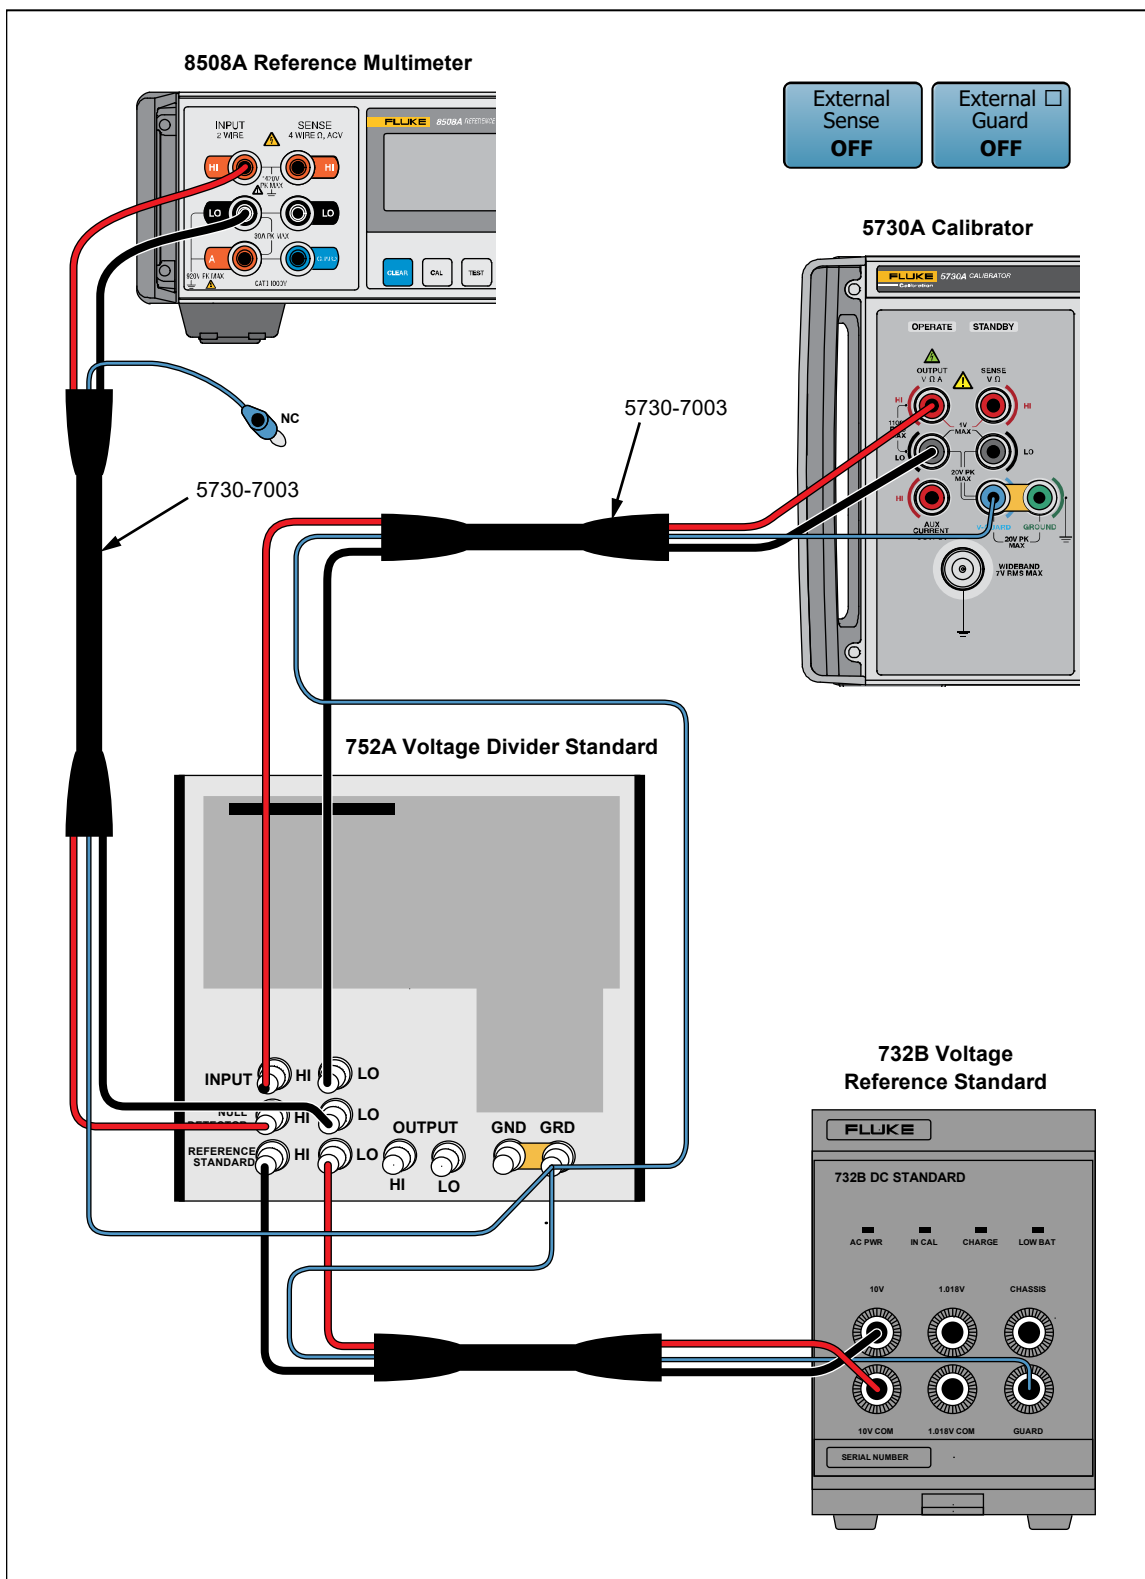

Figure 6. 220 V DC Range Calibration Connections
3. Connect the 732B, 8508A, and 752B in a 10:1 configuration, as shown in Figure 6.